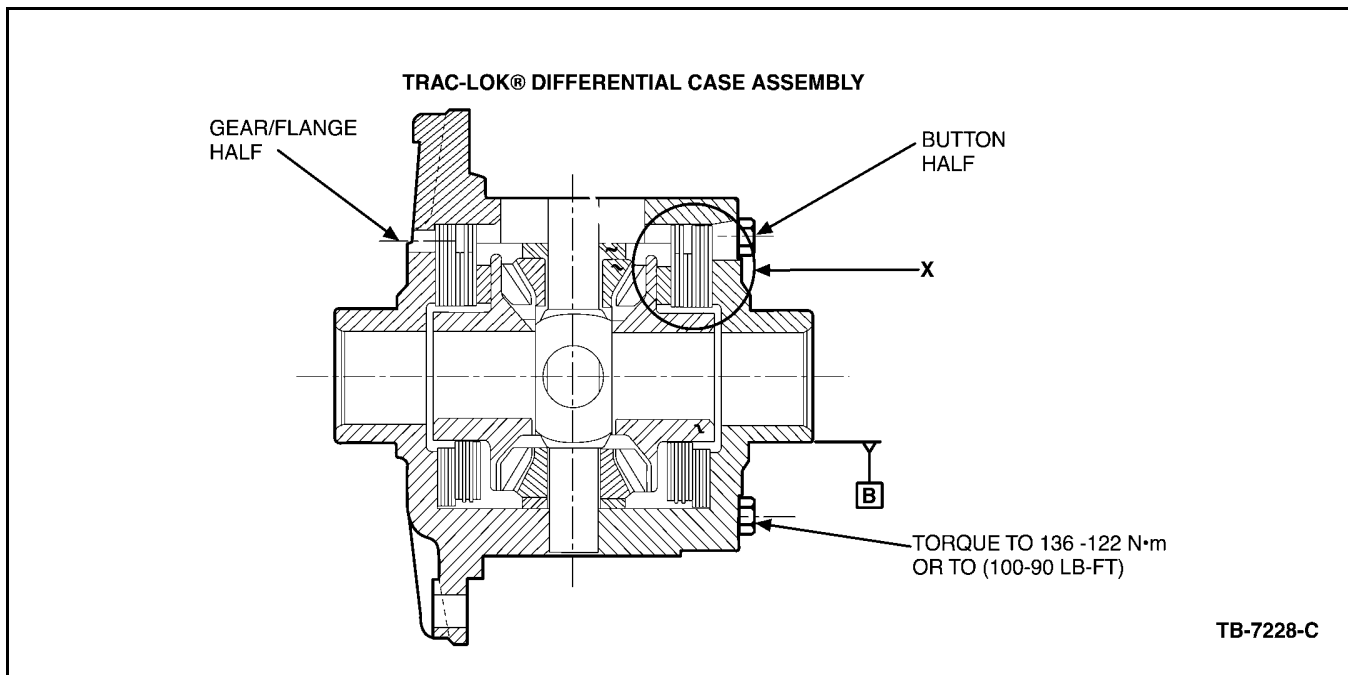

Figure 1 - Article 04-16-4
1. The differential assembly has two (2) halves (flanged or gear half and button half) (Figure 1). Mark the flanged half, button half, and cross shaft positions for installation reference. These marks will be used during the rebuild procedures to insure the case halves and cross shaft are reassembled in the exact same position as original.